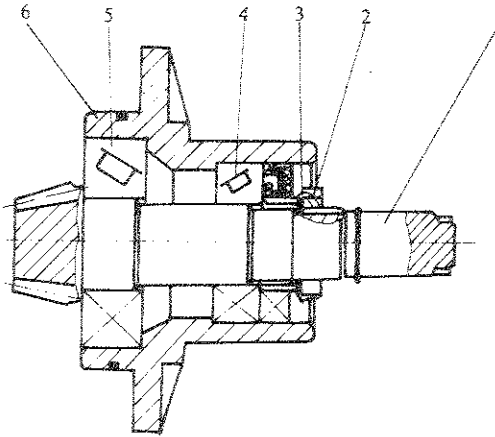

Fig. 9-4 Front central drive conical gear assy
(2) The bearing preloading of front drive conical gear is shown in Fig. 9-4.
When assembling, the rolling bearing model 27307 & model 7206 are needed to enforce some preload. Since the friction of bearing brings about the axial clearance between the front central drive gears and makes some alteration, while the clearance surpasses 0.1mm (measured by clock gauge) the adjustment is required. Dismount the assy of Fig. 9-4, prize open the thrust washer, turn the round nut and thus enforce the assy to produce 1~1.5 N·m force moment, at last lock the round nut with thrust washer.